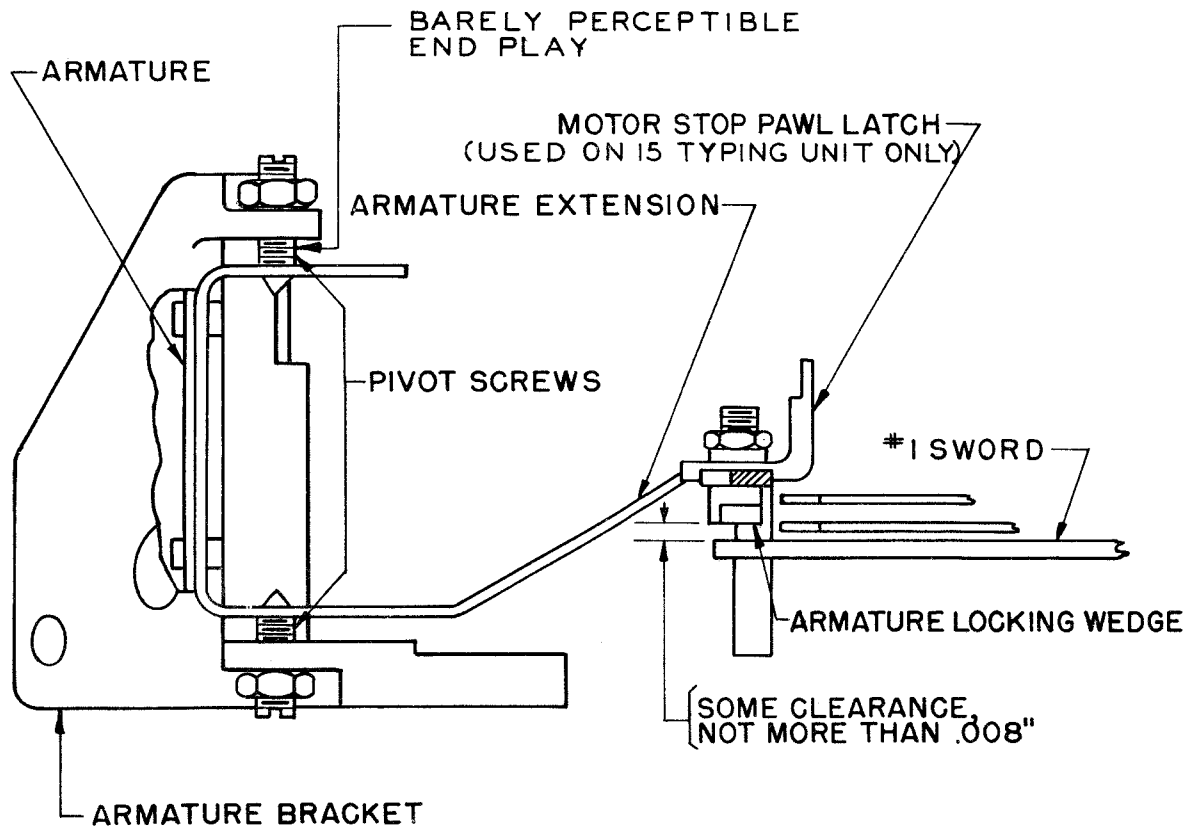

Figure 14
2.17 Armature (pulling magnet) should have a minimum amount of endplay, without bind in its bearings, gauged by eye and feel, and its locking wedge should clear the No. 1\* sword by not more than 0.008 inch as indicated in Figure 14 when the No. 1\* selector lever rests on peak of its cam, the No. 1\* sword front arm is held against outer separator plate without bending the separator plate and the armature endplay taken up to reduce the clearance to minimum.
Note: When making this adjustment on typing units equipped with a mechanical motor-stop mechanism, set the motor stop-pawl latch so that the shoulder of the latch is against the front face of the armature extension. (See Figure 14.)